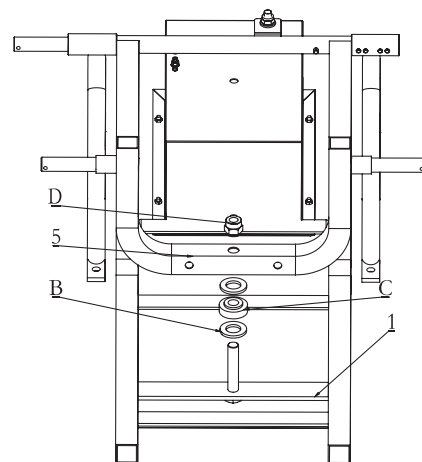

Fig.2
1. Put 2 pcs Washer 12(B) and a bearing(D) onto base frame(1) as below figure show, then put through the steering bracket(5) into main frame(1) and fix them with a M12 nut(D). See figure 2.